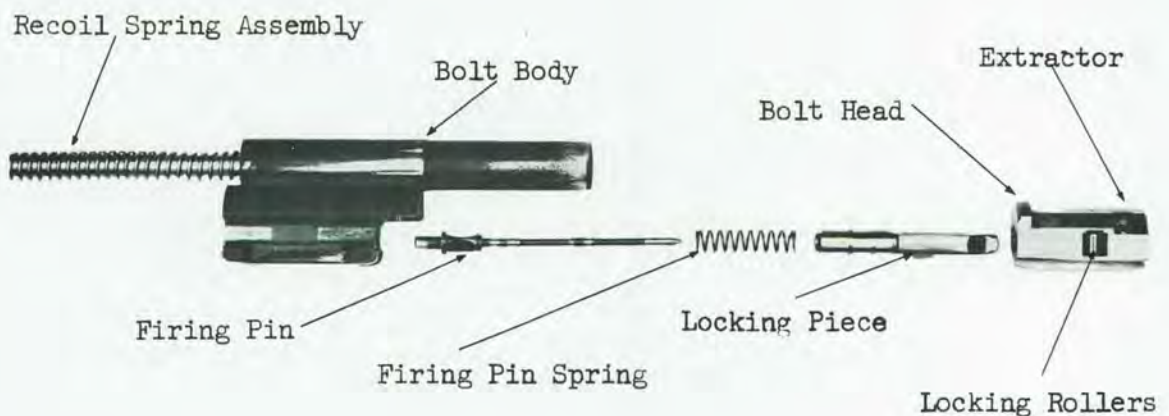

Fig. 8 Bolt Assembly
b. The bolt assembly (Fig. 8) consists of bolt head, bolt body, recoil spring assembly, firing pin, firing pin spring, locking piece, locking roller assembly, and extractor assembly. The bolt is removed by detaching the butt stock and sliding the assembly out the rear of the receiver. Disassembly is accomplished by rotating the bolt head counter-clockwise (looking at the bolt face) one quarter turn and separating. This will allow access to the firing pin, firing pin spring and locking piece for cleaning, inspection and repair or replacement of these components.